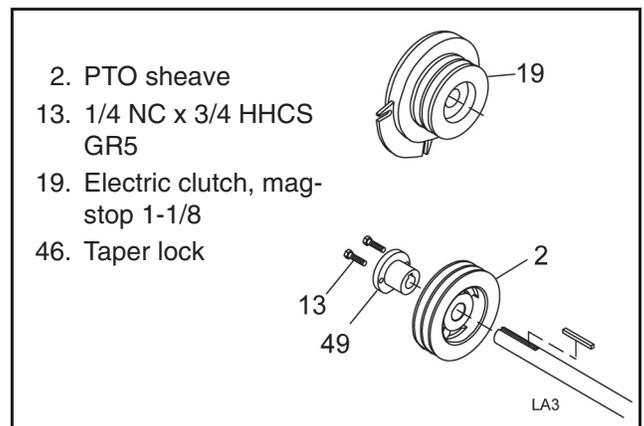

**Figure 16. Clutch Spacer Installed**
1. Install clutch spacer (A) over engine shaft with the chamfer side towards the engine. See Figure 16.